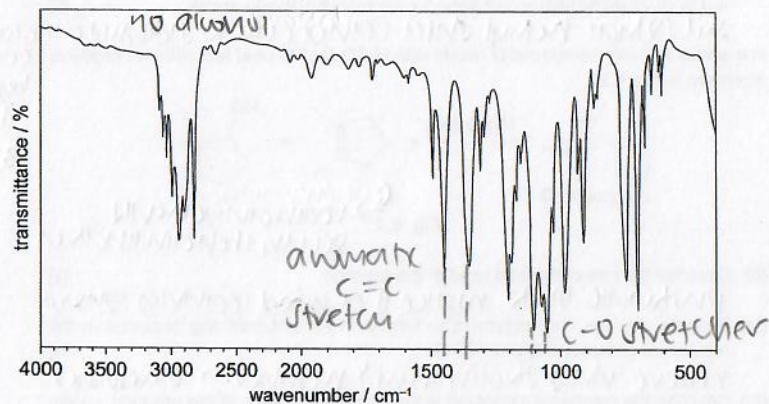

Fig. 5.1
- 5 (a) Compound **R** is a flavouring agent. **R** only contains carbon, hydrogen, and oxygen. The IR spectrum and ^1H NMR spectrum of **R** are shown in Fig. 5.1 and Fig. 5.2 respectively.